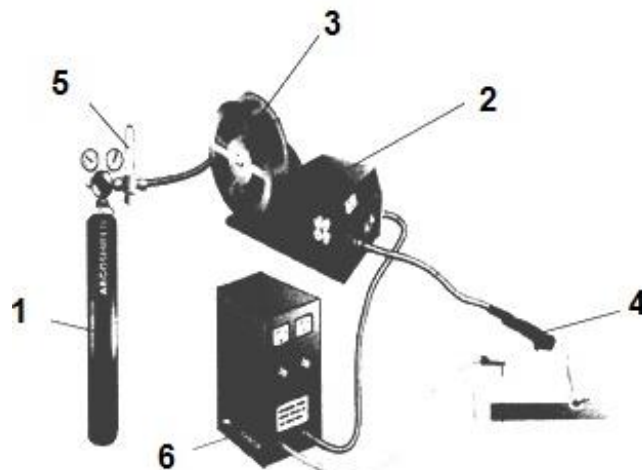

FIGURE 3.3
3.3 FIGURE 3.3 shows a MIG-welding machine. Label the sketch numbered 1 to 6.